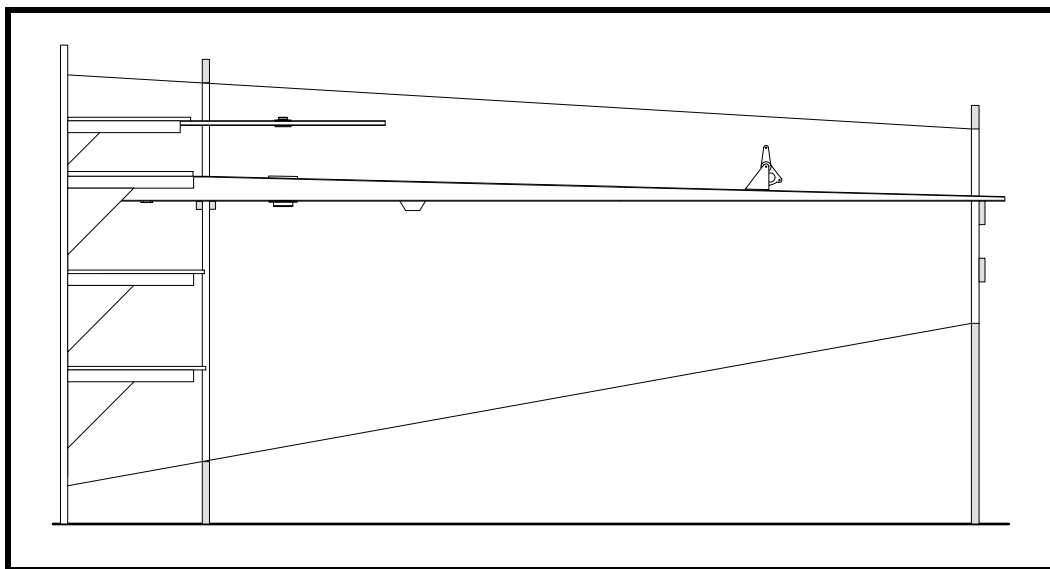

Figure 5
- ❑ Install a string for the alignment of the leading edge. See Figure 5. This string should be anchored on the outboard face of the Sta. 14 template. It should align with the chord line at the leading edge of the template at the Sta. 14 and Sta. 1 template. Stretch this string tight and extend it to the fuselage centerboard. Drill a hole in the fuselage centerboard.
- ❑ Install a string for the alignment of the trailing edge as shown in Figure 5. This string should be anchored on the outboard face of the Sta. 14 template. It should align with the chord line at the trailing edge of the template at the Sta. 14 and Sta. 1 template. Stretch this string tight and extend it to the fuselage centerboard. Drill a hole in the fuselage centerboard.